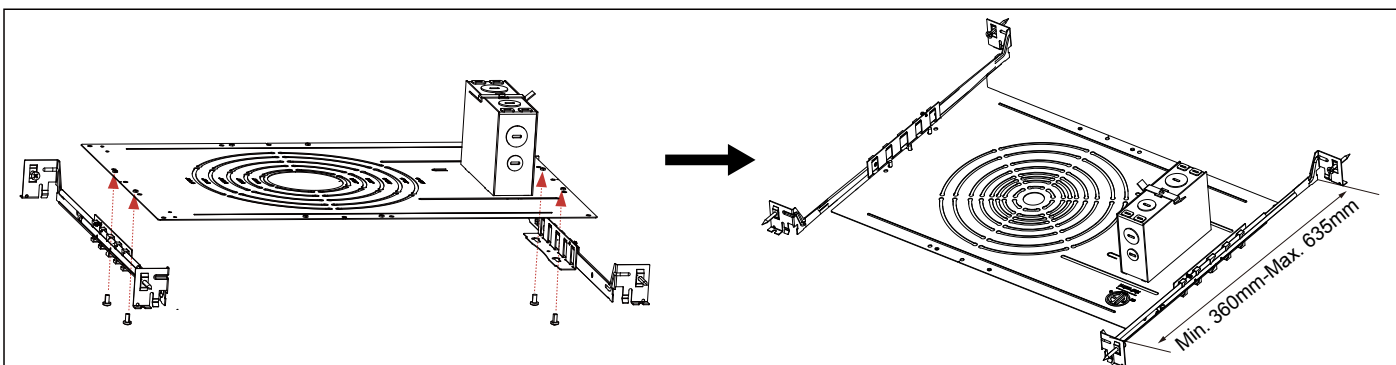

Figure 9
1. Install the (4) pan head screws into the construction plate from the bottom (Screw heads should be on the bottom of the plate). Do not fully tighten. Leave a 1/8" space. (Fig.9)